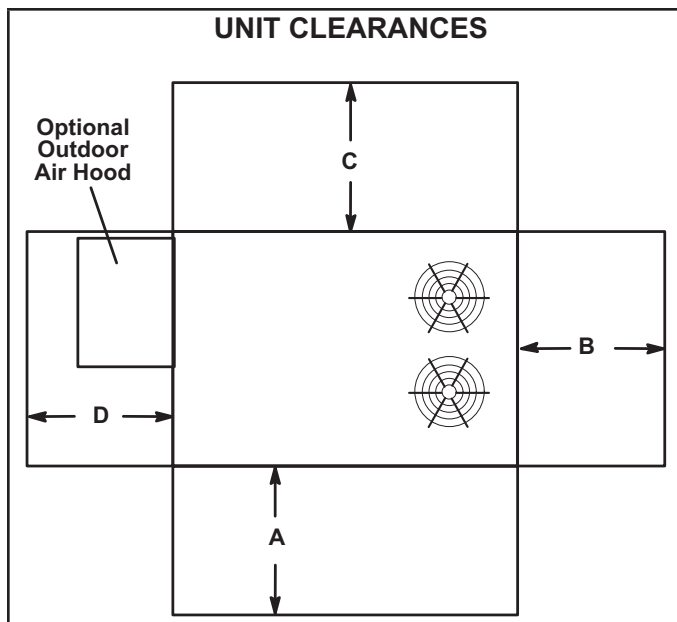

FIGURE 1
- 2 - Specified installation clearances must be maintained when installing units. Refer to FIGURE 1.